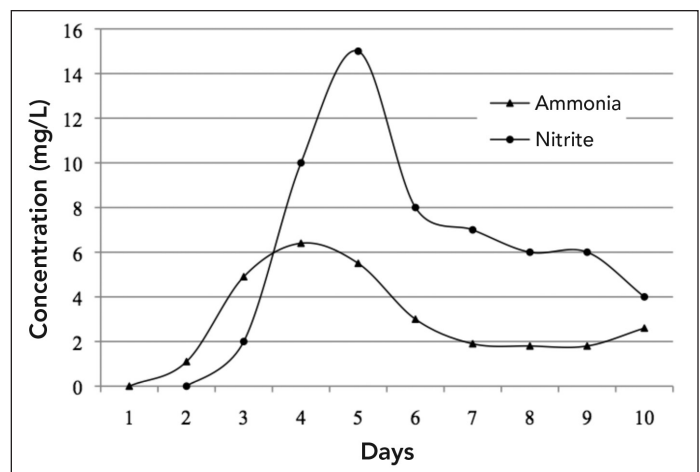

Figure 1. Water quality data for biofilter start-up. (DeLong, unpublished data, North Carolina Fish Barn, July 1998)
It is helpful to graph both ammonia and nitrite concentrations, adding each day's readings over time. This gives you a visual concept of biofilter development. Figure 1 shows the characteristic curves associated with biofilter start-up. While the numbers may vary among different cycles, systems and biofilters, the shape and relationship of the curves should be about the same. Initially, ammonia concentration increases to a high point and then declines. After a lag period, nitrite concentration begins to increase to a point and then declines. It is also important to note that this example start-up occurred over a short period of time because of the warm temperature under which this particular trial was conducted—28 °C (about 83 °F). Compare this graph to Figure 3 in SRAC Publication No. 452, *Recirculating Aquaculture Tank Production Systems: Management of Recirculating Systems*.
- 7. Be alert for the decline in nitrite concentration.** In Figure 1, note the trend for declining nitrite concentration. The top of the nitrite curve represents the point at which *Nitrobacter* bacteria have developed in numbers sufficient to consume more nitrite than is being produced or added to the system; thus,